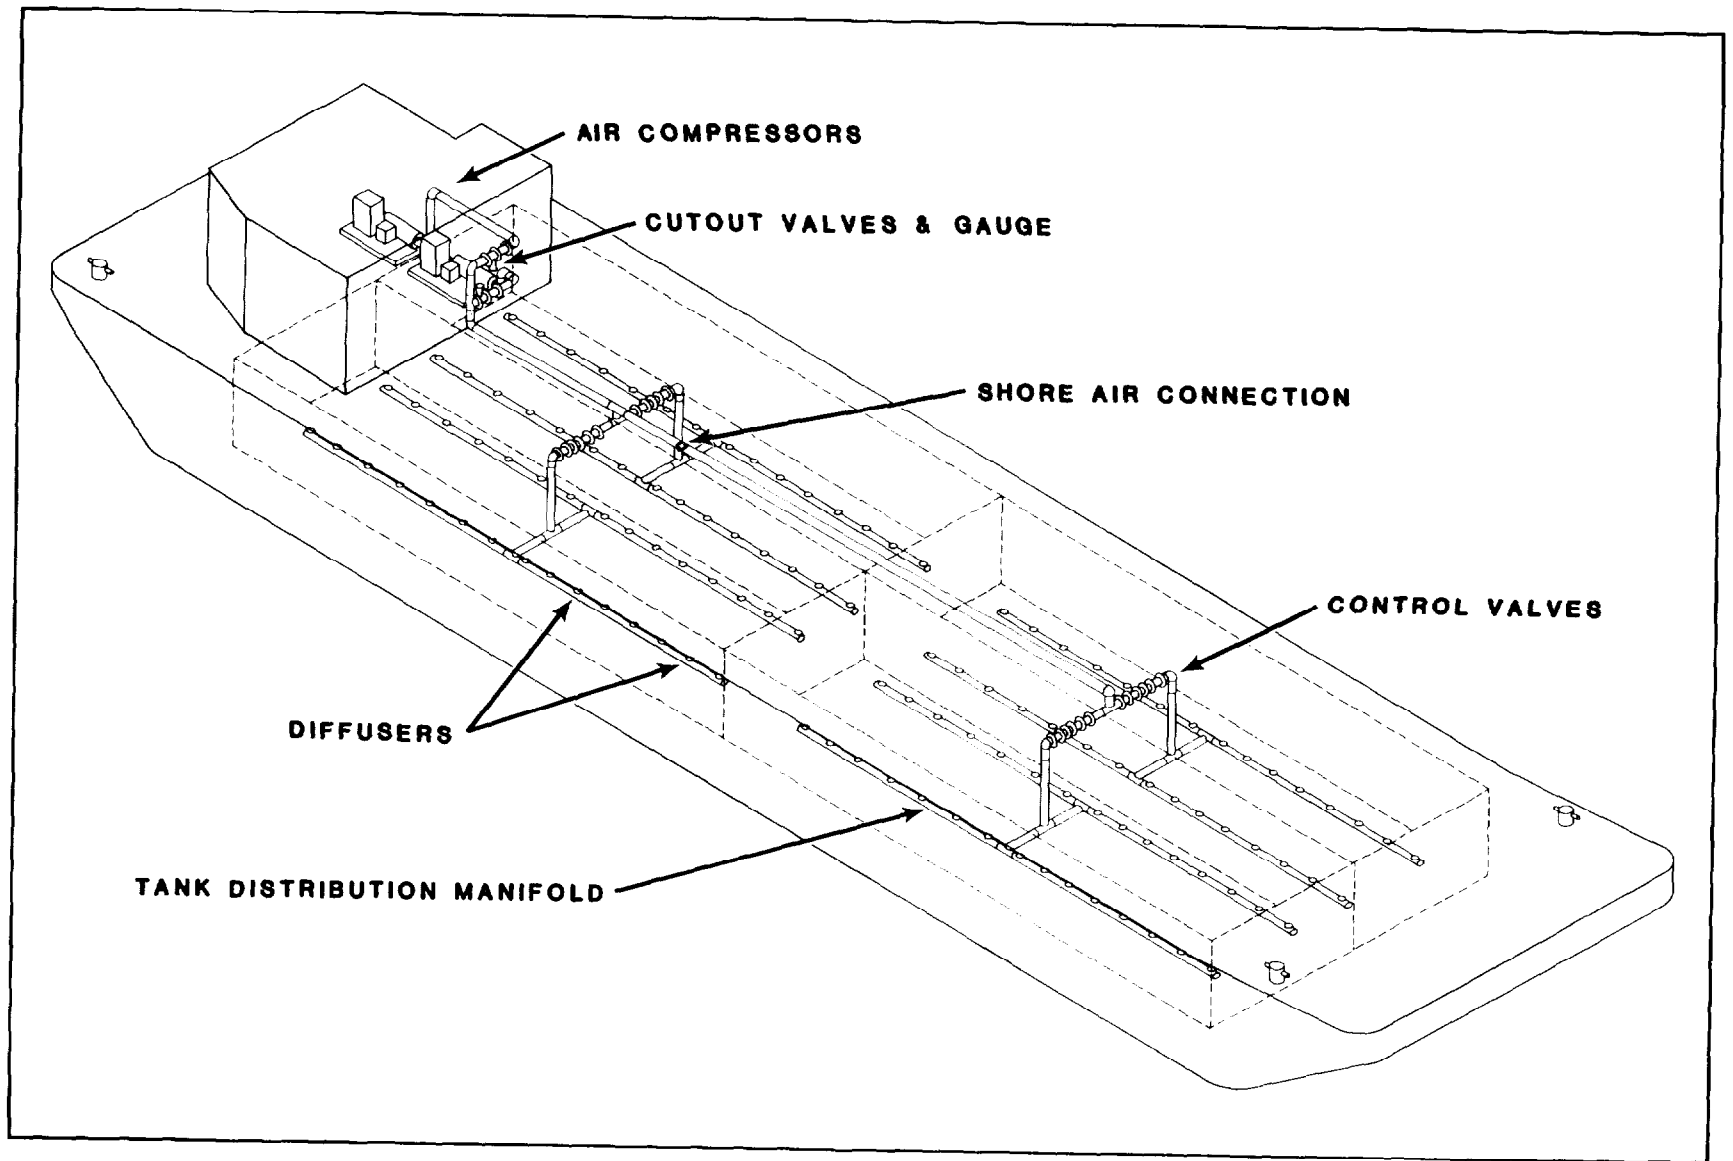

FIGURE 2-9
2.3.1 AERATION SYSTEM LAYOUT. Compressed air is provided to each cargo tank for sewage aeration. The aeration of sewage prevents the settling of solids in the tank and helps to prevent sewage from becoming septic. The system consists of two air compressors, distribution piping, and individual tank diffuser manifolds. The arrangement of the system is shown in Figure 2-9.